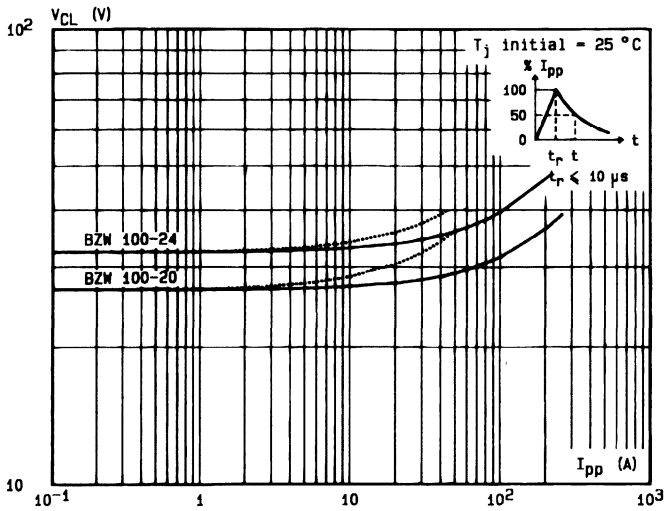

Fig.2 - Clamping voltage versus peak pulse current exponential waveform $t = 15 \text{ ms}$
Note : The curves of the figure 2 are specified for a junction temperature of 25 °C before surge. The given results may be extrapolated for other junction temperatures by using the following formula : $\Delta V (BR) = \alpha_T (V(BR)) \times [T_j - 25] \times V(BR)$